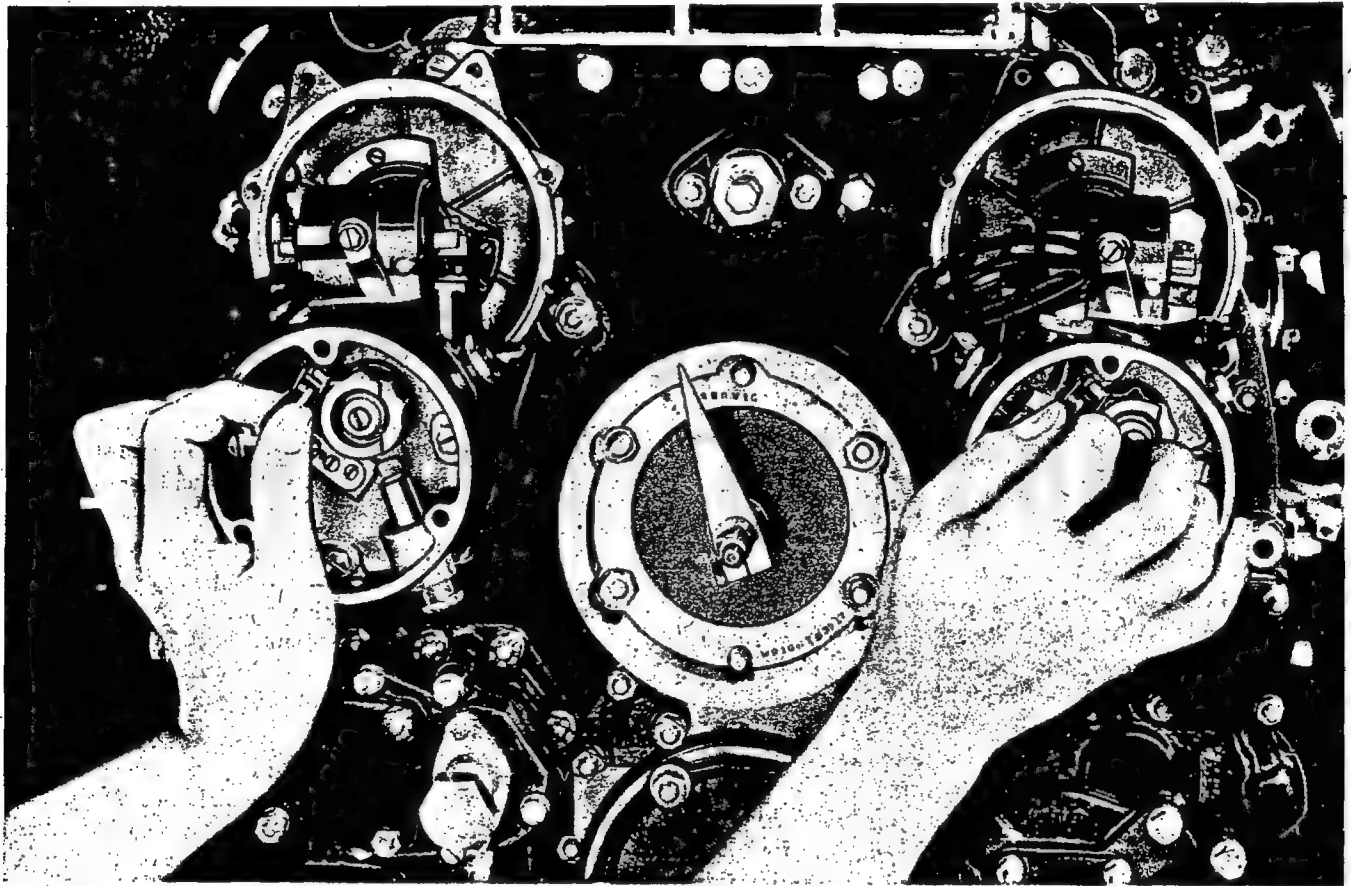

Figure 64—Timing Magnetos
(6) If the points do not open and close when moving the magneto from side to side, withdraw it from the engine. Install the magneto coupling wrench over the splined drive shaft coupling to keep the shaft stationary, and remove the cotter pin, castellated nut, and washer which retain the coupling on the shaft. The coupling, which is fitted to the shaft by six slots on its inside diameter, should be withdrawn, turned to the next slot engaging position, and reinstalled on the shaft. Install the retaining washer and nut and check the opening and closing of breaker points with the magneto on the engine. When the results are satisfactory, withdraw the magneto to install the cotter pin in the coupling retaining nut, and reinstall the magneto on the engine as directed in paragraph (5) above. All adjustments must be made at the drive end of the magneto by changing the location of the coupling splines and not by altering the breaker point opening adjustment.
(7) Move the magneto in the direction opposite to crankshaft rotation until the breaker points open; connect the timing light, or insert the feeler gage between the points. Move the magneto as far as it will go in the direction of crankshaft rotation so that the breaker points have closed. Turn the magneto slowly back in the opposite direction until the breaker points are just beginning to open as indicated on the timing light or the feeler gage.
(8) Check the setting by turning the propeller backward a quarter of a revolution with the timing light connected or the feeler gage between the points. Rotate the propeller forward slowly, stopping when the points are just beginning to open as indicated by timing light or feeler gage. (See figure 64.) The crank angle degree reading observed on the reduction drive gear through the crankcase front section timing plug hole should correspond to the engine data plate spark advanced at the instant the points open as indicated by the timing light or the feeler gage. Install the cotter pins in the magneto flange attaching nuts when the correct spark advance has been established.
(9) Install the plug in the timing inspection hole in the crankcase front section with the copper-asbestos gasket under its head. Tighten and lockwire.
(10) Install the breaker housing cover and tighten the two hex-head cap screws which are retained in the